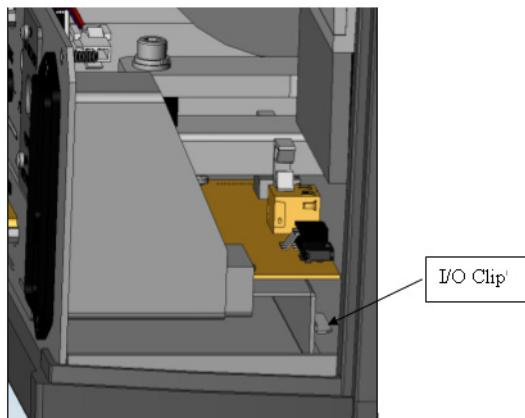

Figure 5: I/O Clip
10. Slide the I/O assembly into the leak detector and ensure that the I/O bracket engages the clip at the base of the leak detector ("Figure 5: I/O Clip").